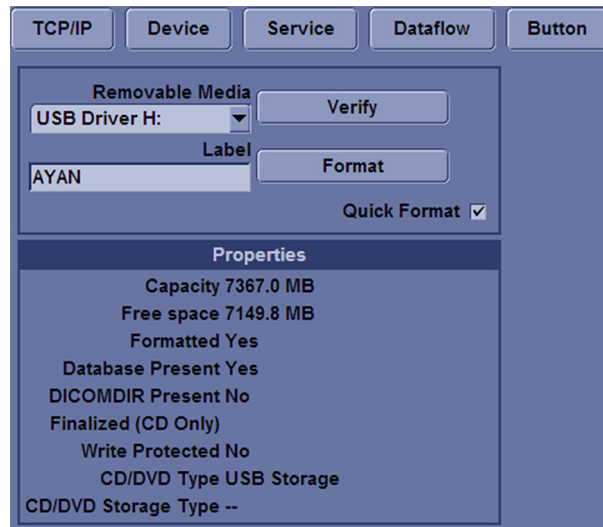

Figure 4-16 Format and Verify Media
- 3.) Enter the label for the media as shown in Figure 4-16 on page 4-25. It is best to use all capital letters with no spaces or punctuation marks. Select **Format**.
- 5.) If desired, verify that the format was successful by returning to **Utility-> Connectivity->Removable Media** and selecting **Verify** as shown in Figure 4-16 on page 4-25.